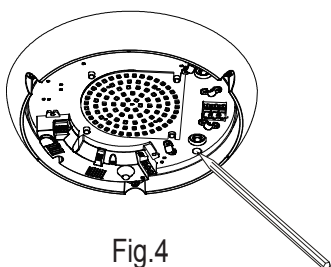

Fig.4
- Step3 Put the base of the product on the ceiling to make the drilling mark (as Fig.4)